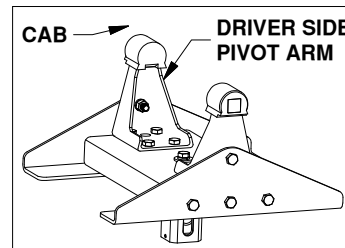
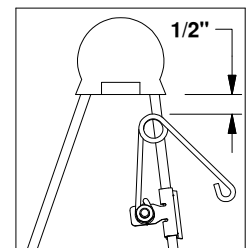

FIGURE B3: Base View.
FIGURE B4: Driver side pivot arm.
2. Locate the flange which will be closest to the truck cab on the driver side pivot arm, see figure B3. The clip should be placed so that when the springs coil is in the line with the edge of the arm there will be 1/2" of clearance between the bottom of the rubber bumper and the top of the spring, see figure B4. Drive the clip securely onto the flange with a hammer.